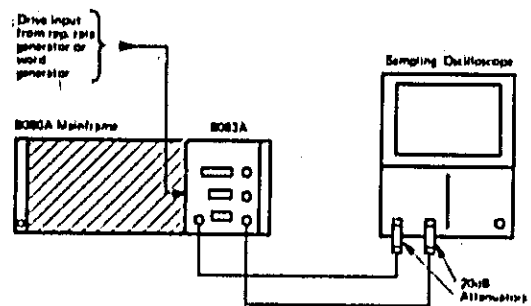

Figure 4-1. Amplitude, Offset, ECL, Duty Cycle, Transition Times and Distortion Test Setup.
1. Set up the equipment as shown in figure 4-1 and set the controls as follows: